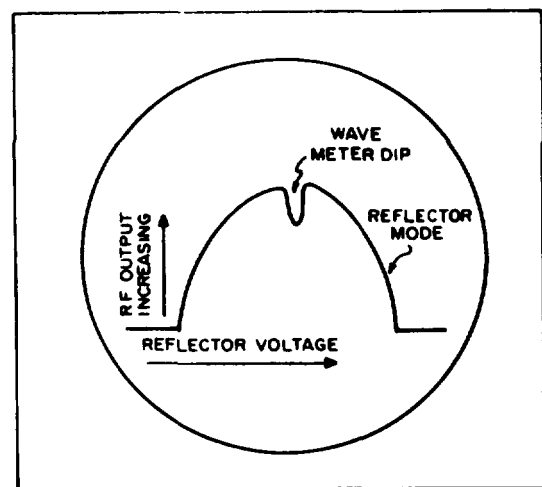

Figure 7-8. Typical Mode Trace
- Measure the frequency at center of trace. This frequency should be 8300 mc - 8500 mc. (See figure 7-8.)
- Set the wavemeter to 9050 mc and vary the RF FREQ control until the dip is set to the center of the mode. (See figure 7-8.) Note the position of the RF FREQ control.